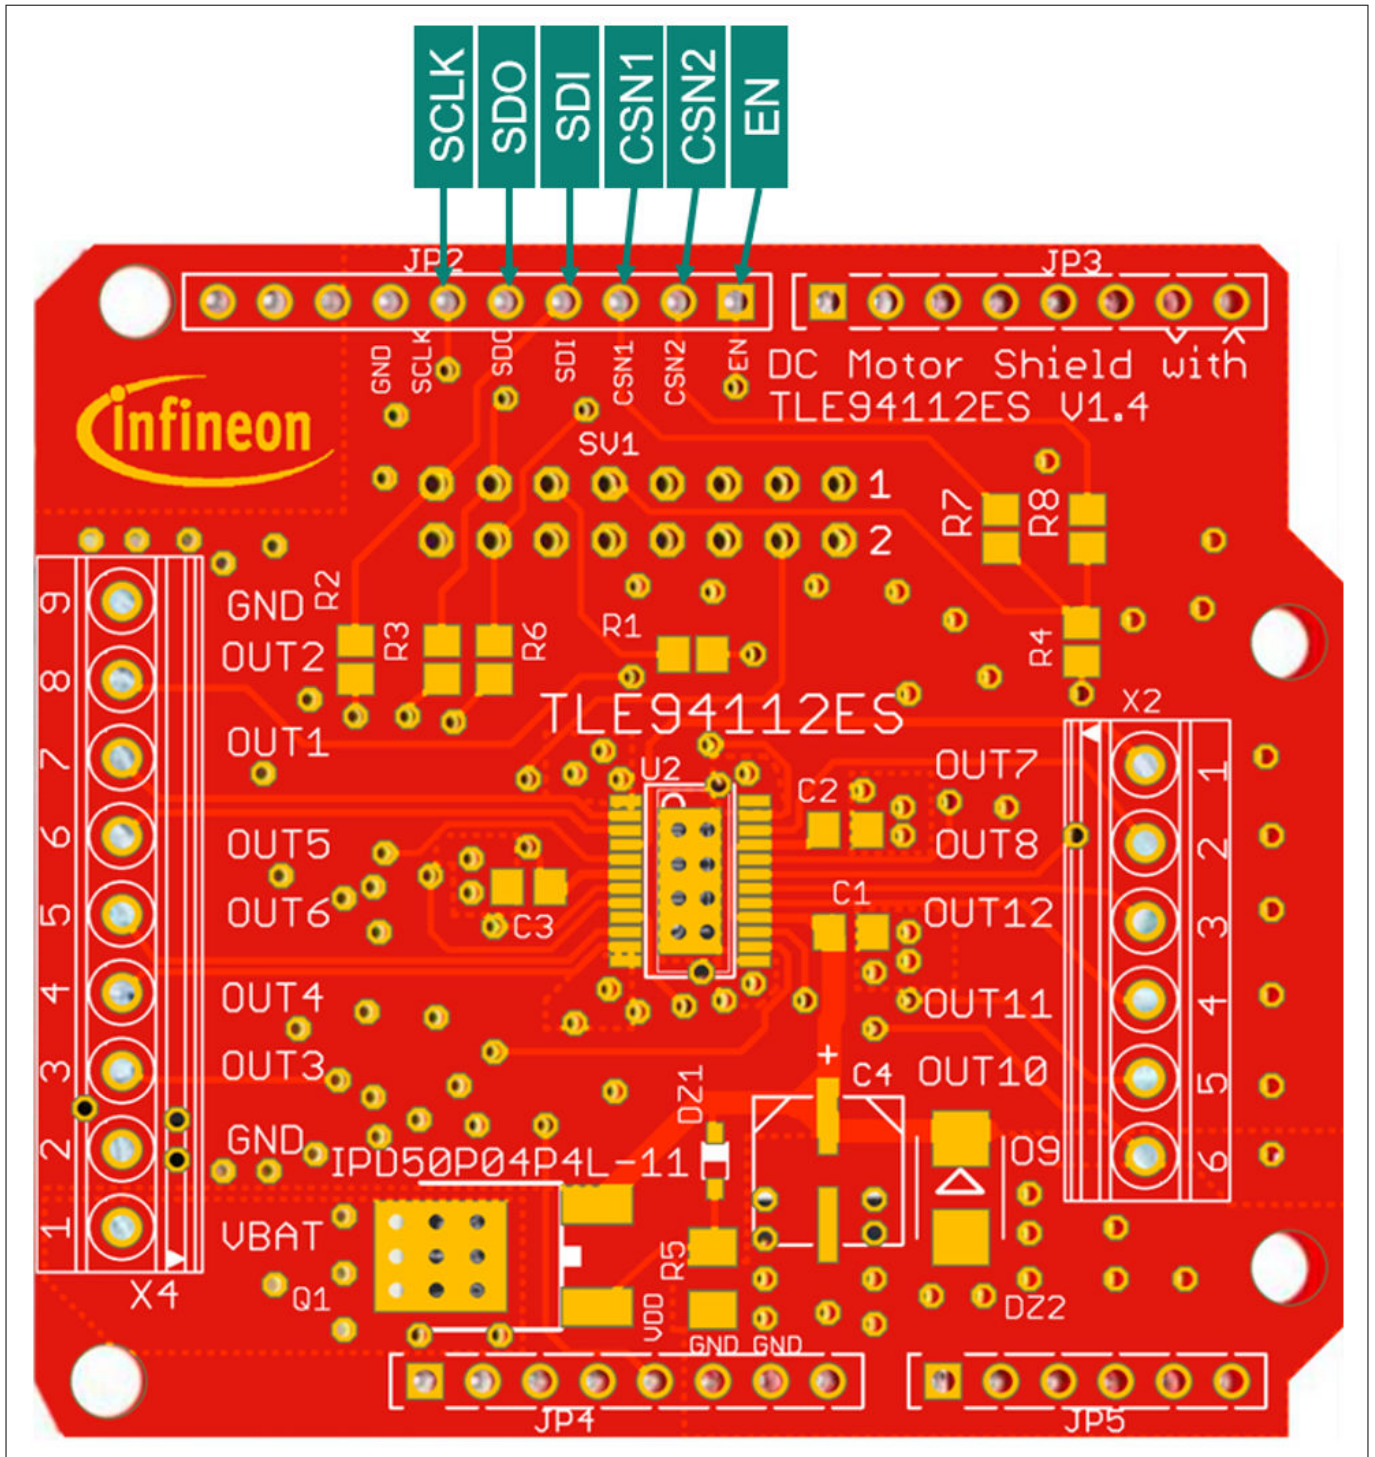

Figure 15 Control signals between DC motor shield and Arduino Uno
- Connect the DC Motor Shield to an Arduino UNO R3 or an XMC™ 1100 Boot Kit. The control signals between the TLE94112ES and the Arduino UNO R3 or XMC1100 are linked to each other (Figure 15)